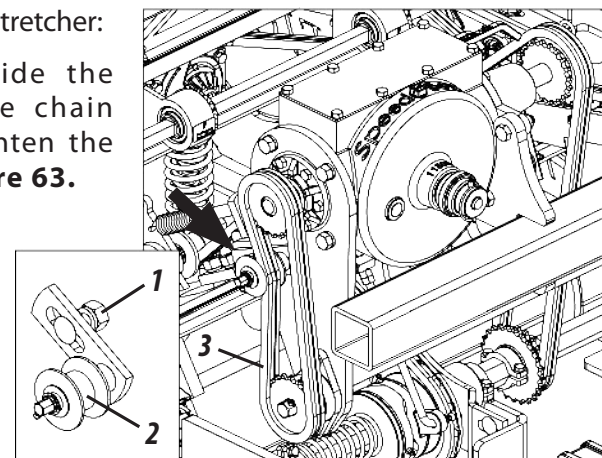

Figure 63
CHAIN STRETCHER (FIGURE 63)
- 1- Loosen the nut (1), slide the stretcher (2) adjust the chain tightness (3). Then retighten the nut (1), **as shown in figure 63.**